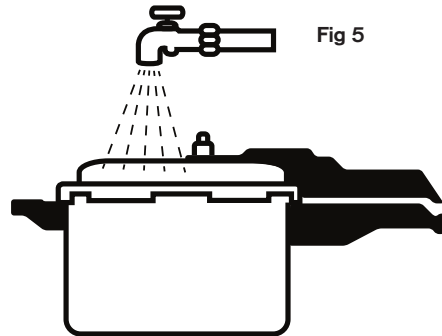

Fig 5
7. To reduce the pressure after the cooking is complete, set the cooker aside to cool until the pressure is completely reduced. If you wish to cool the pressure cooker down quickly, place the pressure cooker, under running cold water (Fig 5). Allow the cold running water to run over the metal surface of the lid until the pressure reduces. The pressure is completely reduced when the pressure indicating valve has been released. If the pressure indicating valve remains in its raised position, there may still be pressure inside the pressure cooker. Continue to cool until the pressure indicating valve drops. After the pressure has been completely reduced, remove the pressure limiting valve. Always remove the pressure limiting valve before opening the cover.